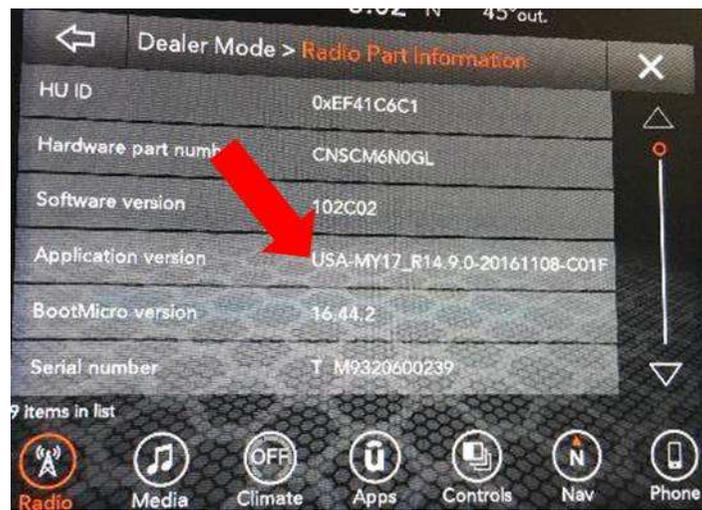

Fig. 1
2. Is the radio currently at software level 18.7 or higher (Fig. 1) ?